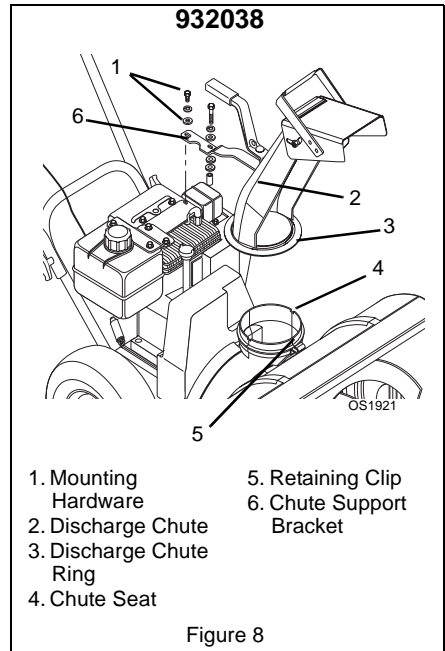

Figure 8
1. Grease discharge chute ring if not already greased (Figure 8).